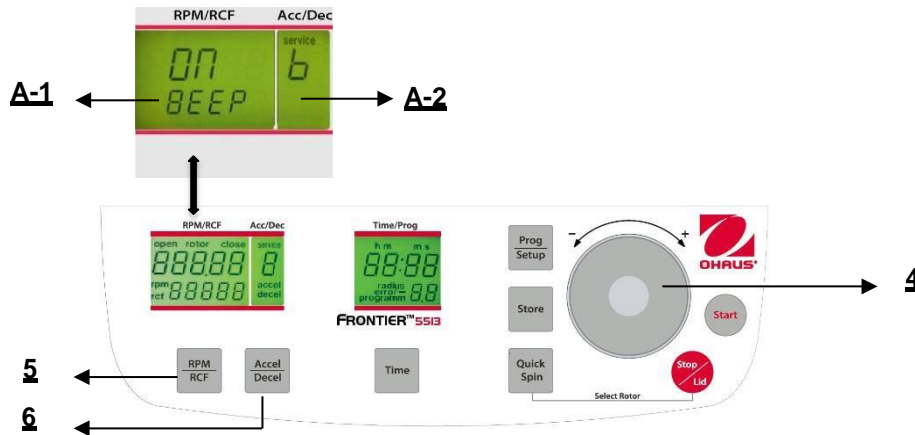

Figure. 30
Proceed as described under point 4.1.2 to enter this program mode and then press the key "**Accel/Decel**" (6). In the display "**Acc/Dec**" (A-2) the word "**Service**" flashes. Now select the letter "**B**" with the adjusting dial (4). As a result, in the display "**RPM/RCF**" (A-1), the word "**ON/BEEP**" appears. After pressing the key "**RPM/RCF**" (5), you can turn the keyboard sound (On) or (Off) with the adjusting dial (4). (see figure 30).